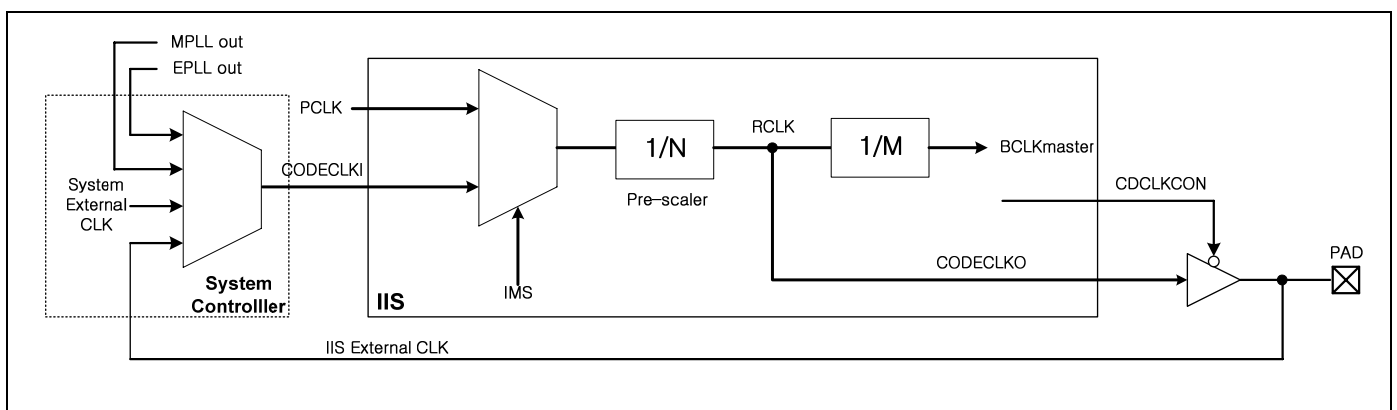

Figure 36-2. IIS Clock Control Block Diagram
Figure 36-2 shows the route of the root clock with internal master or external master mode setting in IIS clock control block and system controller. Note that RCLK indicates root clock and this clock can be supplied to external IIS codec chip at internal master mode.
2. You must select a clock source. S3C6400 has three clock sources. Those are PCLK, EPLL and external codec. For more information please refer to figure 36-2.